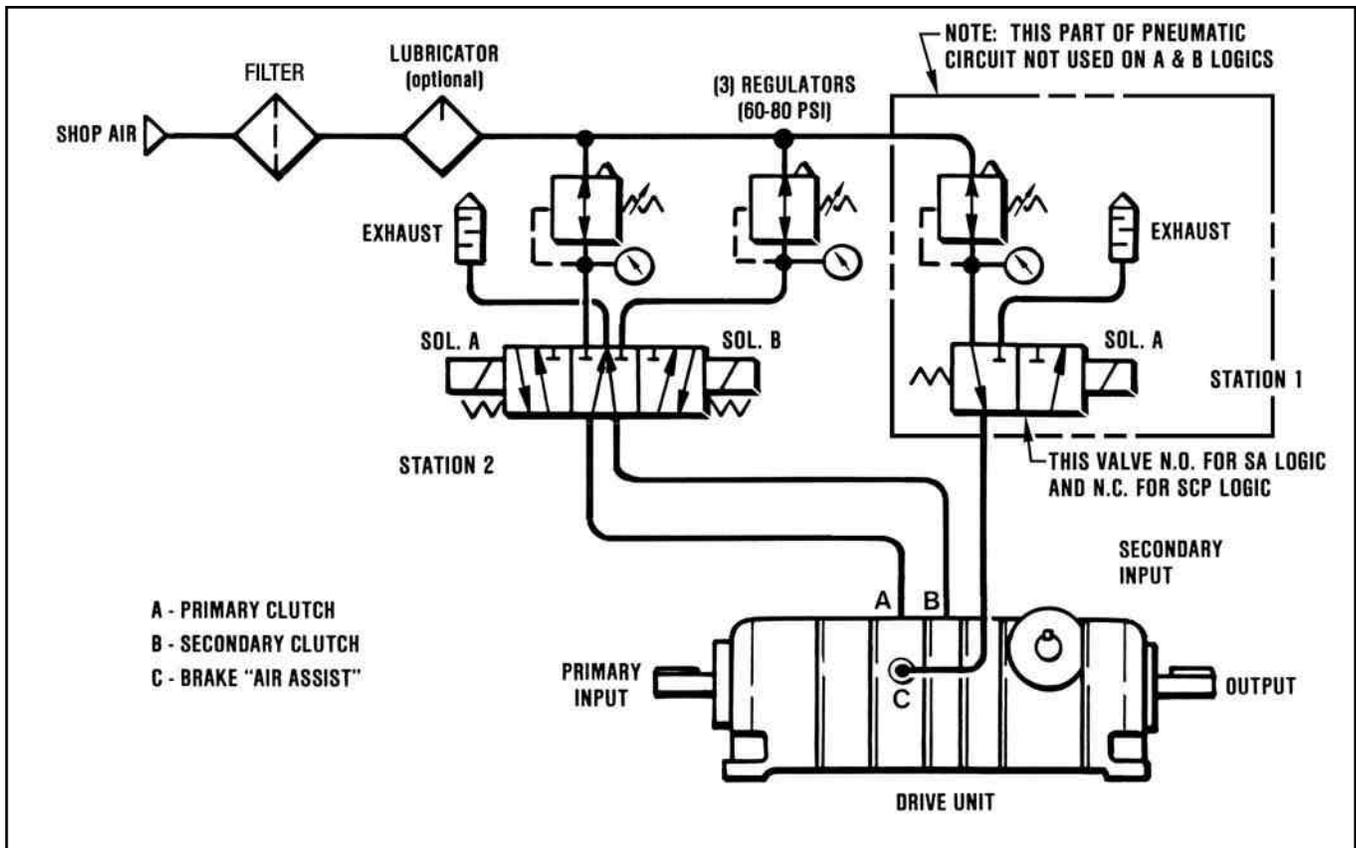

Figure 3.01 - Typical Pneumatic Schematic For "SA" Logic
Note the following when planning and installing the Pneumatic System: (See Figure 3.01)
2. Recheck all Air Connections for tightness to see if they are correct as shown in the Pneumatic Schematic (*Figure 3.01*).